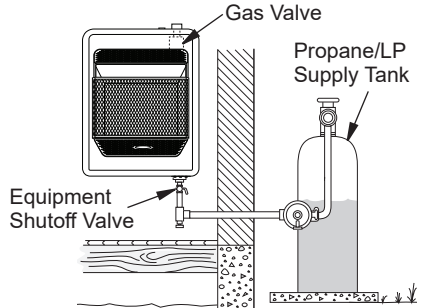

Figure 17 - Checking Gas Joints for Propane/LP Gas
3. Check all joints from gas supply (see Figure 17 or 18) to equipment shutoff valve. Apply a noncorrosive leak detection fluid to all joints. Bubbles forming show a leak.
4. Check all joints from equipment shutoff valve to control valve (see Figure 17 or 18, page 15). Apply a noncorrosive leak detection fluid to all joints. Bubbles forming show a leak.